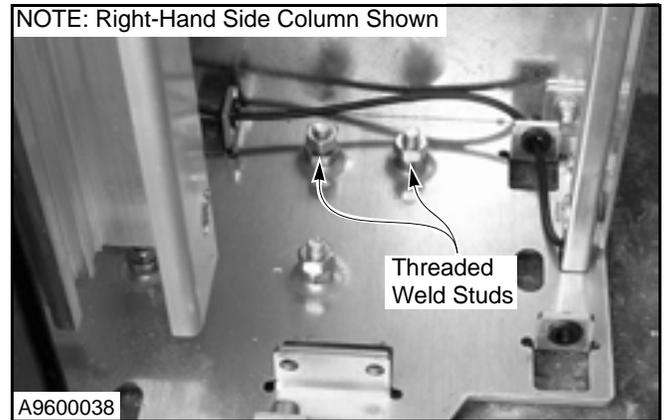

Figure 35
- Locate the two threaded weld studs with nuts mounted to the base plate. Check the bottom set of nuts to be sure they are tight and loosen the top set of nuts. (See Figure 35.)